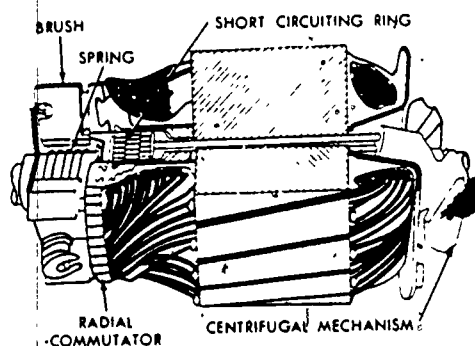

Figure 43. Repulsion-Start Induction-Run Motor Rotor
**REPULSION START-INDUCTION RUN MOTOR.** The repulsion start-induction run motor consists of a single concentric type stator, a wound rotor, compensating windings, a centrifugal device, and endbells. This type of repulsion motor uses four carbon brushes; two are short-circuited together, the other two brushes are connected in series with the compensating winding. The compensating windings in this motor are used to improve the power factor during the starting period. The centrifugal device used in this motor consists of a shorting ring and a brush lifting mechanism. As the motor reaches approximately 75 percent of its rated speed, the centrifugal device forces the short-circuiting ring into contact with the inner surface of the commutator segments and converts the motor into an induction motor. At the same time, the centrifugal mechanism raises the brushes, which reduces wear of the brushes and commutator. This motor has the operating characteristics of high starting torque with a low current draw and a constant running speed under load. The repulsion start-induction run motor, shown in figure 43, is made in sizes from 1/4 to 10 horsepower and is used to power such loads as compressors, fans, pumps, stokers, and farm machinery.